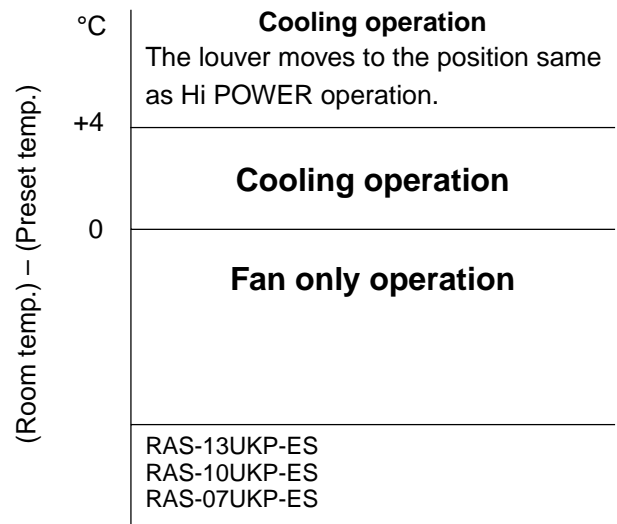

**Fig. 7-2-5**
- (2) The microcontroller turns the compressor on and off at the regular intervals (4 to 6 minutes). While the compressor is turning off, the indoor fan motor operates in the SUPER LOW position. The pattern of operation depending on the relation between room temperature and preset temperatures is shown in Fig. 7-2-5.